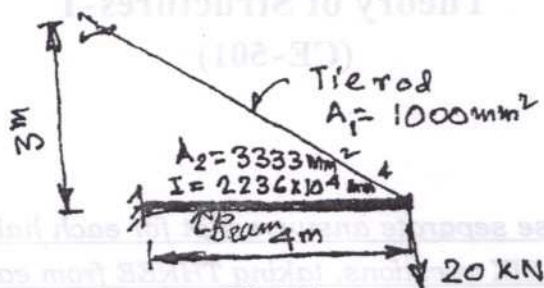

Fig.Q.4
4. Calculate the tension in the tie rod as shown in Fig.Q.4.